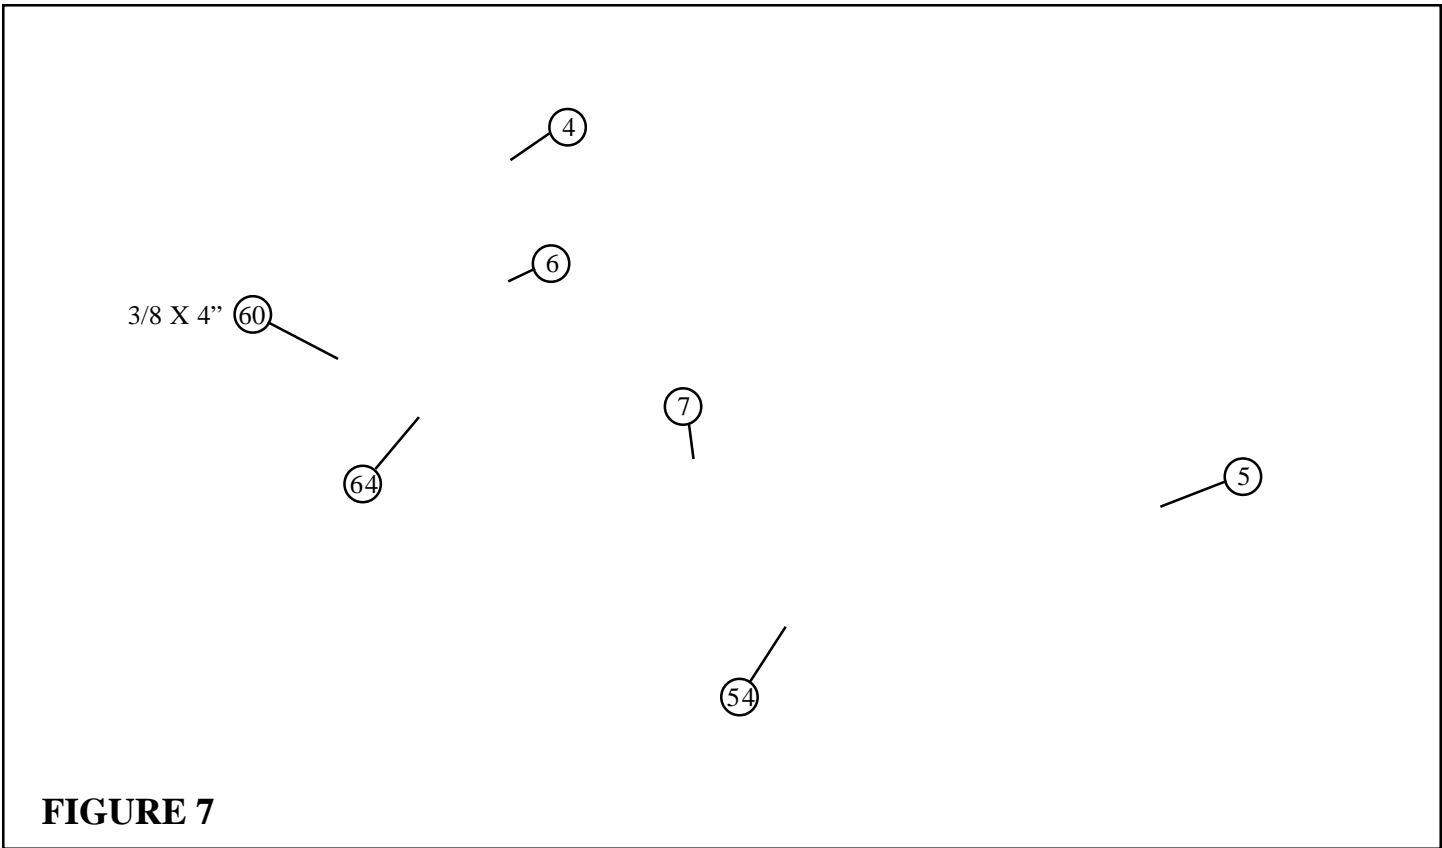

FIGURE 7
- **LOOSELY** assemble the RIGHT and LEFT ARMS (6 & 7) to the UPRIGHT (2) and the RIGHT and LEFT ARM SUPPORTS (4 & 5) using two 3/8 X 4" BOLTS (60), four 3/8" FLAT WASHERS (64), and two 3/8" LOW HEIGHT LOCK NUTS (54). See FIGURE 7.